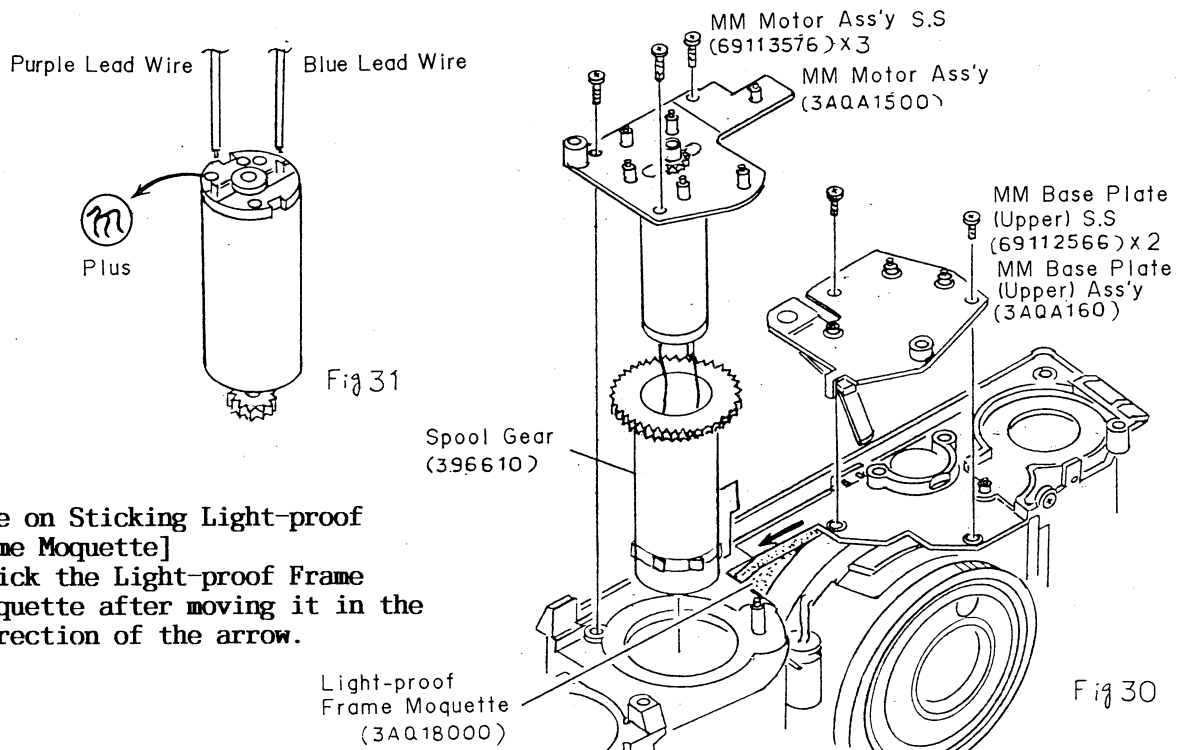

Fig 30
b) The Light-proof Frame Moquette (3AQ18000) is stuck to the body (below) and the Lens Barrel Ass'y. Be sure to peel off the Light-proof Frame Moquette from the body without tearing it before removing the Lens Barrel Ass'y. (See Fig.30)